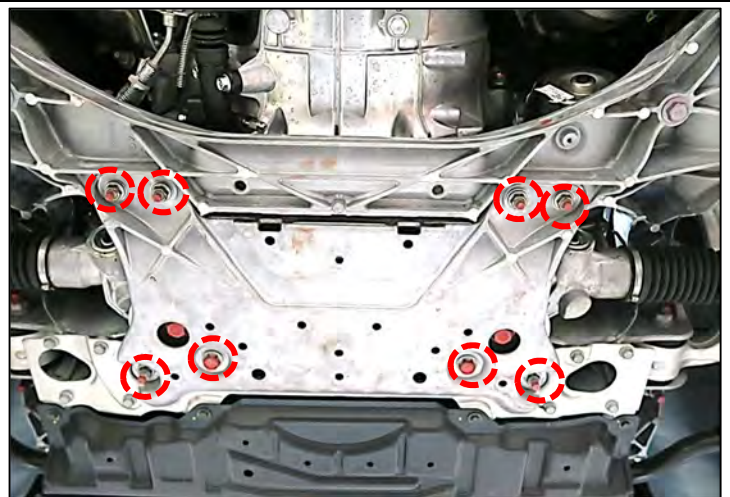

Figure 98
- Install the (6) nuts and washers and the (2) bolts. (Figure 98)